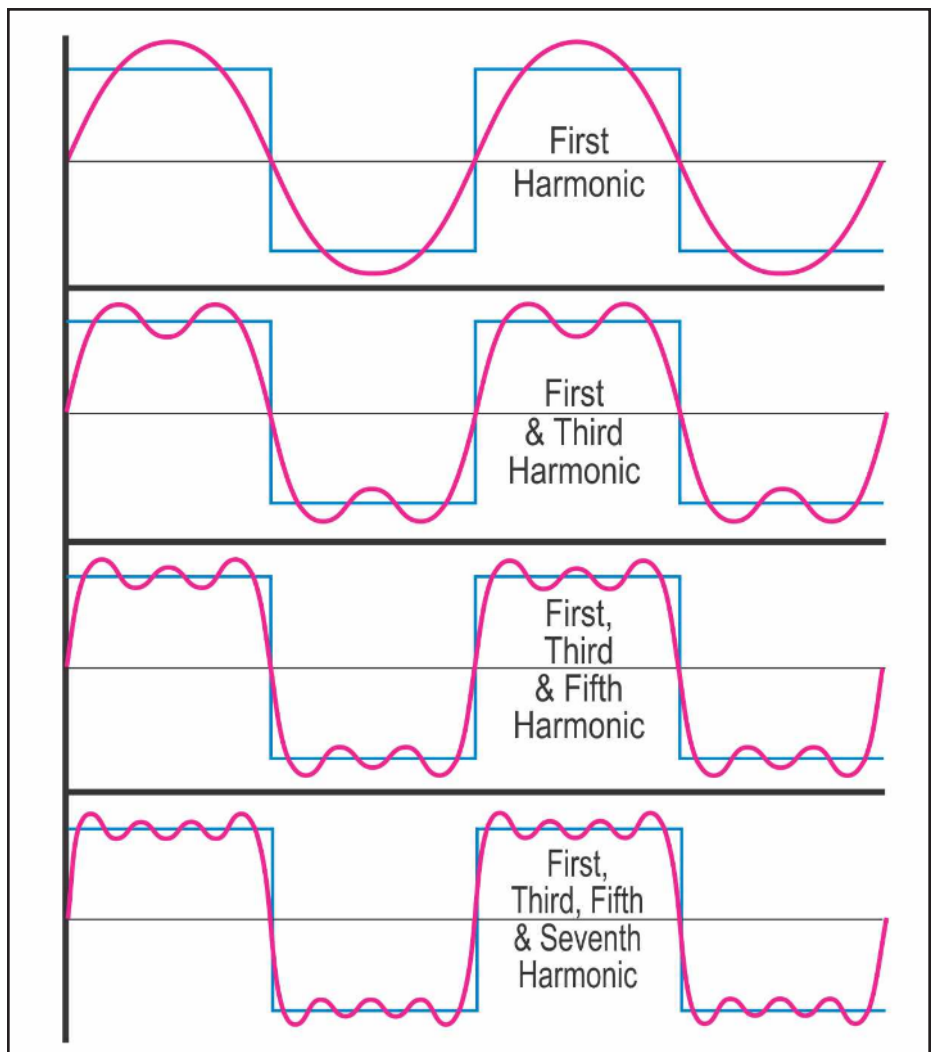

Figure 1 Fourier series development for a square wave.
Studying the vertical sequence of the graphics in Figure 1 makes it evident that according to the common acoustic interpretation a square wave would cause a listener to hear several high frequencies. This raises a number of questions:
- If a true square wave was received by the human ear, would the brain first recognize the received wave form and replace it with a sine wave of the same frequency and similar intensity and then substitute the higher frequencies, similar to Figure 1?
Another interesting question is how a square wave sounds to the human ear compared to the results of a Fourier analysis. A perfect square wave which is approximated with a Fourier series shows an overshoot at the corners of the square (Gibbs phenomenon) (Refs. 2-3). Figure 1 shows a square wave which is approximated by a first, third, fifth and seventh order sine wave. The overshoot never dies out; it approaches a finite limit of 18% of the square wave amplitude as the number of orders increases. The